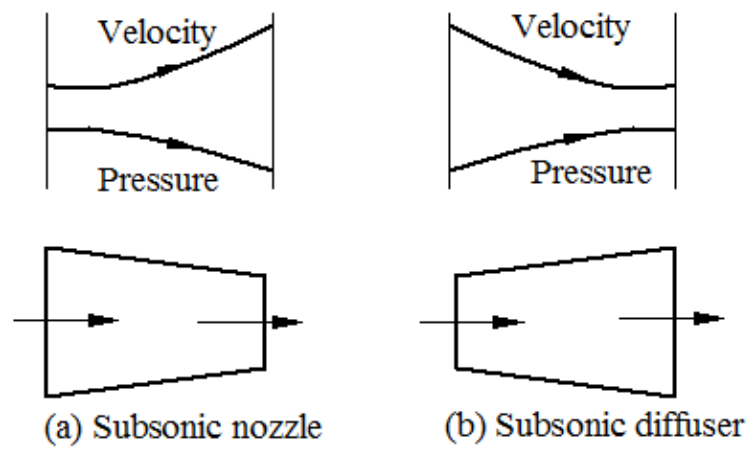

Fig. 2.1 Subsonic nozzle and diffuser
**For subsonic flow ( $M < 1$ )** the quantity  $\left(\frac{1-M^2}{\gamma M^2}\right)$  is positive. In the nozzle pressure decreases, so the quantity  $\frac{dp}{p}$  is negative; therefore from equation (2.2) the quantity  $\frac{dA}{A}$  is also negative and hence area must decrease for subsonic nozzle in the direction of fluid flow. The shape of the subsonic nozzle (convergent nozzle) is as shown in figure 2.1.
In the diffuser pressure increases, so the quantity  $\frac{dp}{p}$  is positive; therefore from equation (2.2) the quantity  $\frac{dA}{A}$  is also positive and hence area must increase for subsonic diffuser in the direction of fluid flow. The shape of the subsonic diffuser (divergent diffuser) is as shown in figure 2.1.